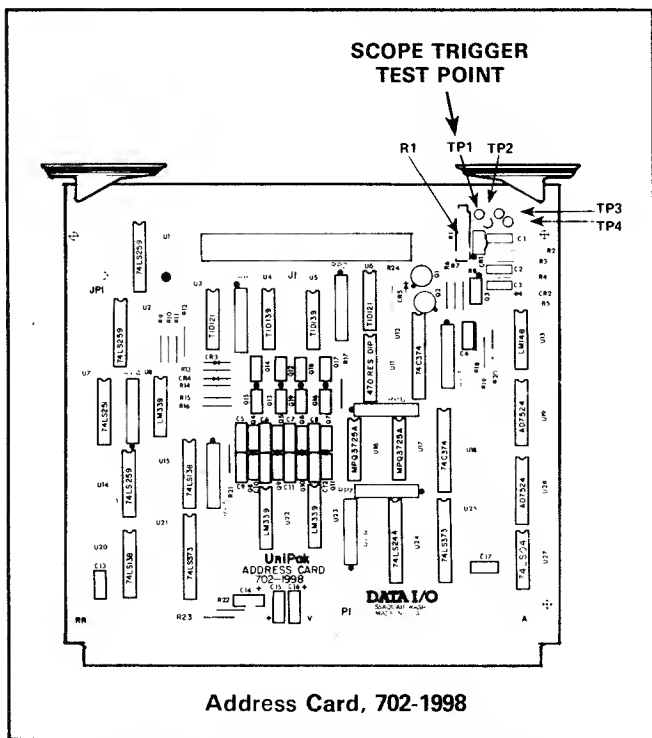

Figure 4-6. UniPak™ Scope Trigger Test Point
3. Perform the general calibration steps (steps 1 through 20) on the measurement chart. For steps 4 and 5, refer to the figures at the end of the measurement chart to observe the bit switch rise waveform and the DAC step waveforms. Trigger your oscilloscope by connecting to the test point under the top edge of the socket assembly (see figure 4-6).